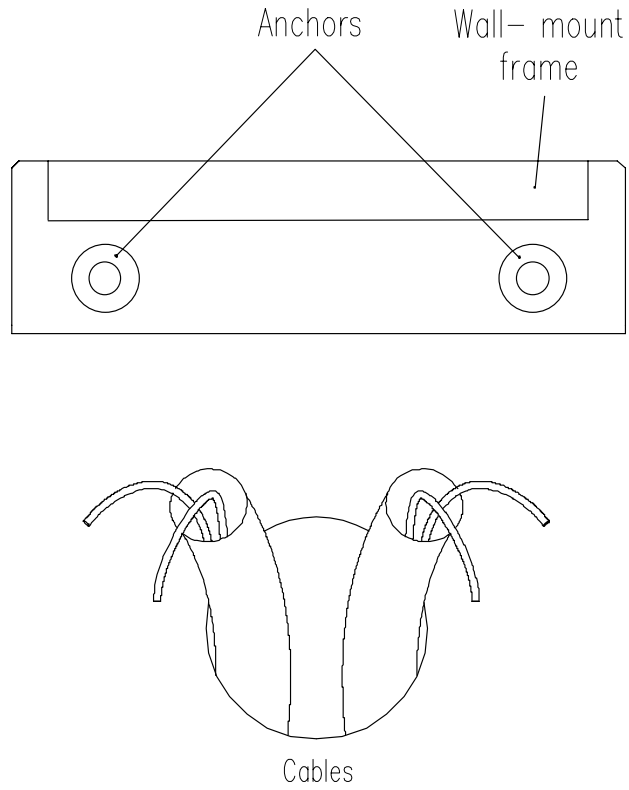

Figure 4. Attaching the Wall-Mount Frame
1. Attach the wall-mount frame to the wall using 2 anchors (see Figure 4).